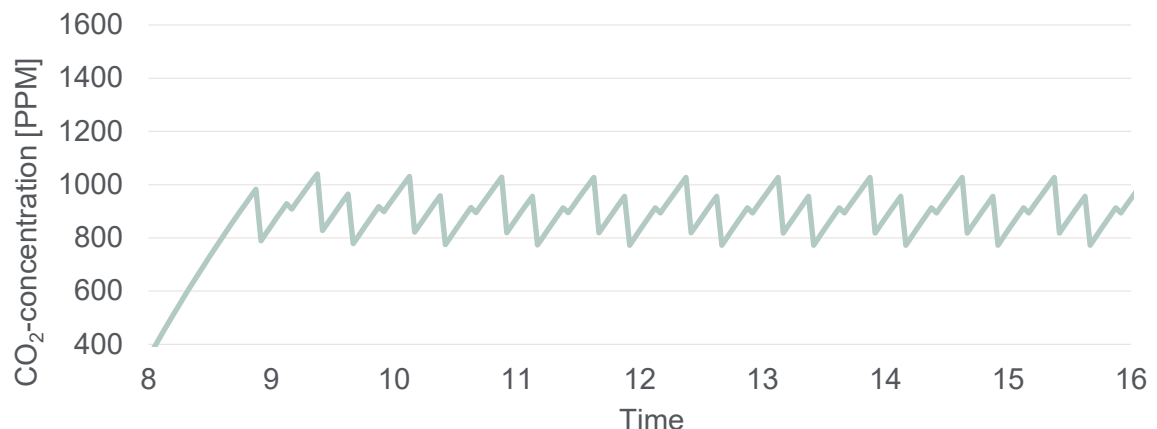

Figure 4 – Simplified illustration of demand driven pulse ventilation.
- 6.2.7.1. In winter mode, the ventilation will be regulated based on air quality. The system will by default employ a demand driven pulse ventilation. Pulse ventilation means that the windows are opened for a short period of time and then closed again. See example in Figure 4.